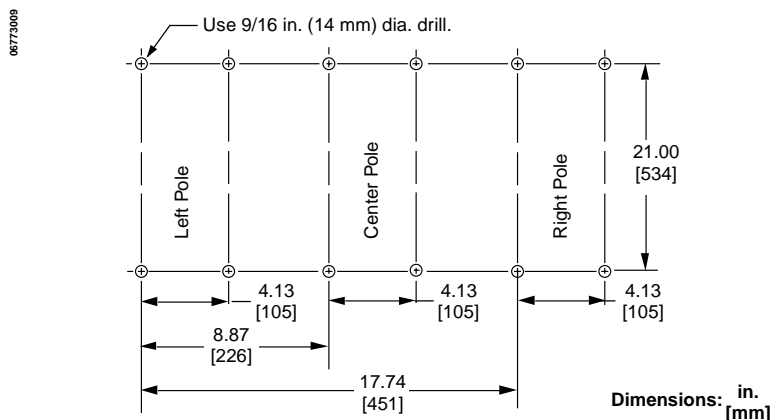

Figure 11: Mounting Hole Pattern
4. Check mounting hole pattern (see Figure 11) on switchboard cross channels or other mounting base.